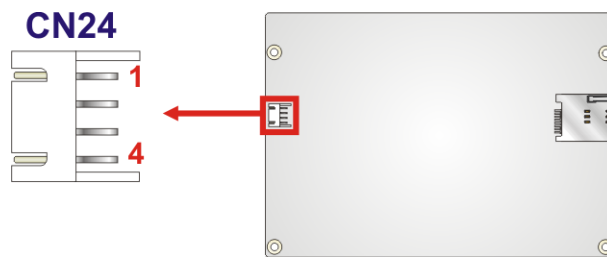

Figure 3-10: Speaker Connector Location
- CN Location:** See **Figure 3-10**